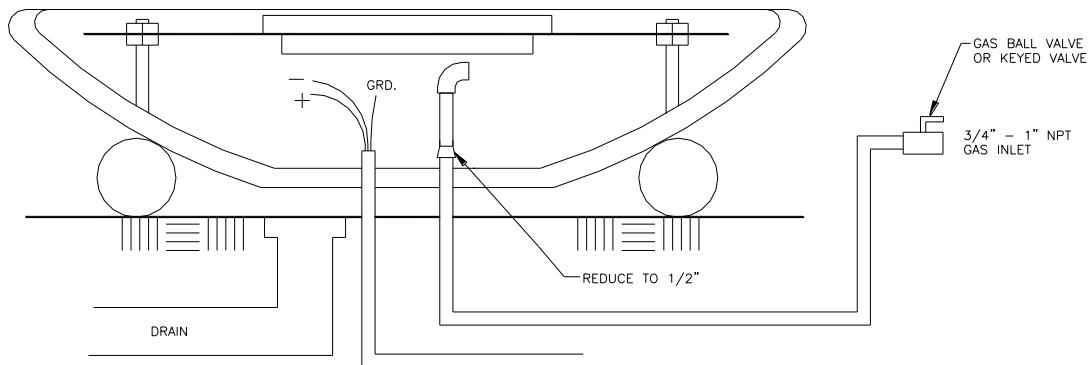

Fig. 7
- 4.8 Install Bowl Feature and Burner Assembly as shown in Fig. 7. (Gas piping and electrical must be centered with the hole in the bottom of the Bowl).
- 4.9 Install Burner Assembly as shown in Figure 7. The Burner Assembly shall be centered and supported by the “SUPPORT Plate”.